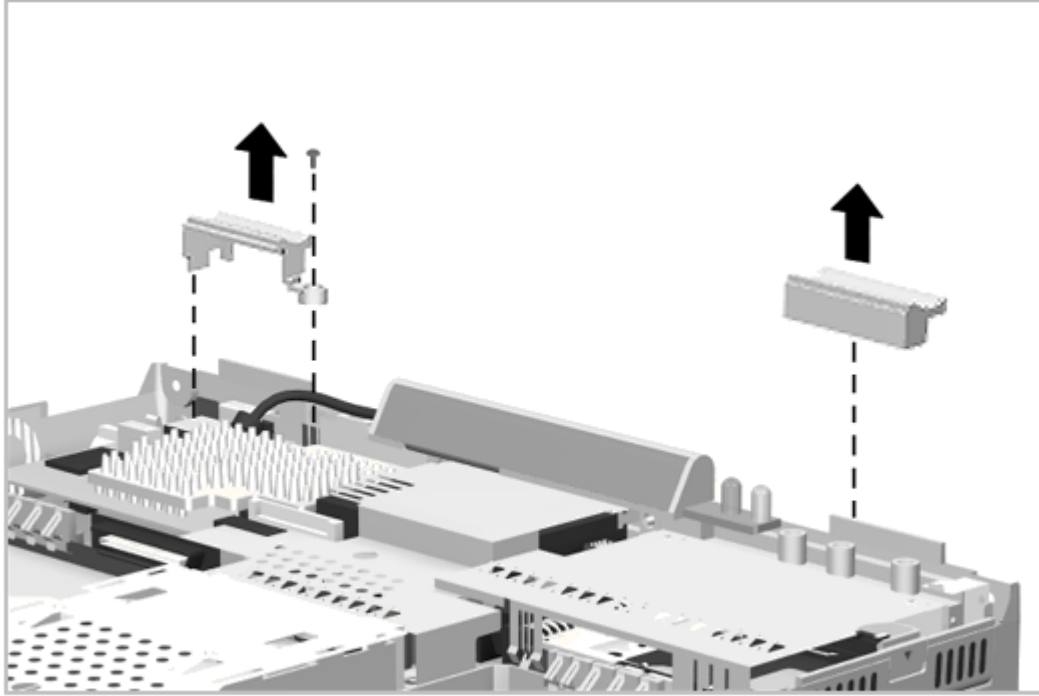

Figure 5-36. Removing the Clutch Cradles
2. Remove the left cradle screw and lift the cradle out (Figure 5-36).
3. Lift the right cradle out of the computer (Figure 5-36).